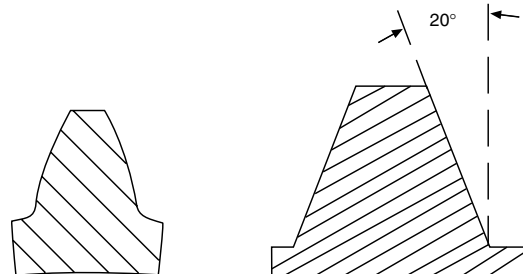

Figure 2.4B,
- The new and improved **20° pressure angle** tooth shape is a stronger and better tooth because of its wider base, especially on pinion gears with small numbers of teeth. (See Figure 2.4B)